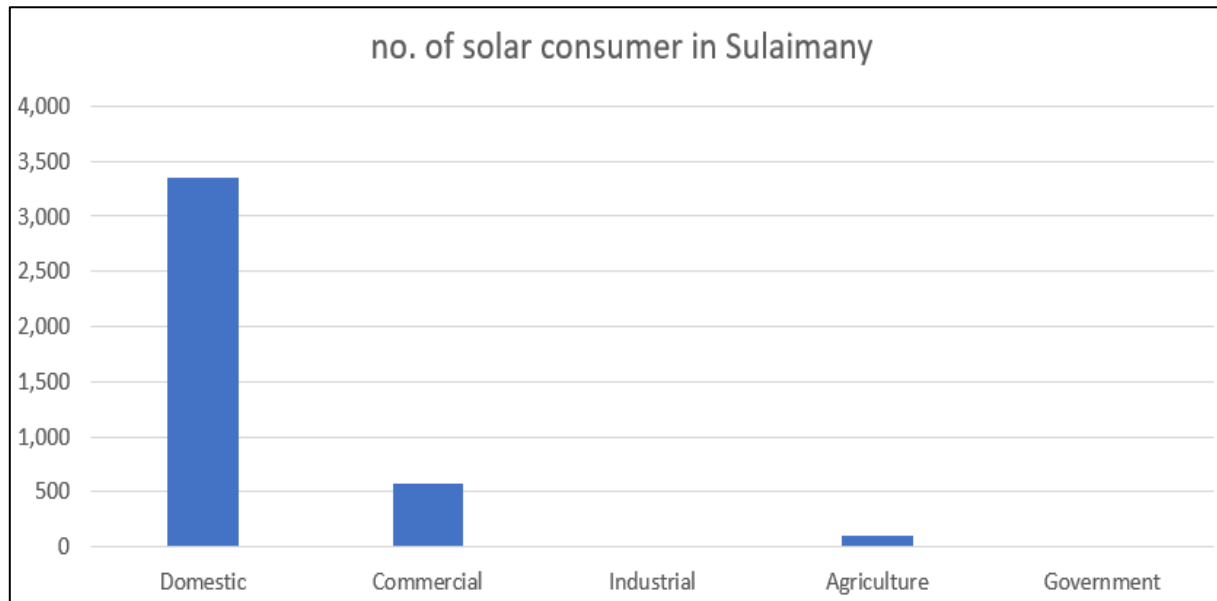

Fig 6 / Solar in Sulaimani
According to the data, as of 14/6/2026, the partners who have installed solar systems are (3354) household partners, (579) commercial partners, (15) industrial partners, (106) agricultural partners and (7) government partners. fig 6.